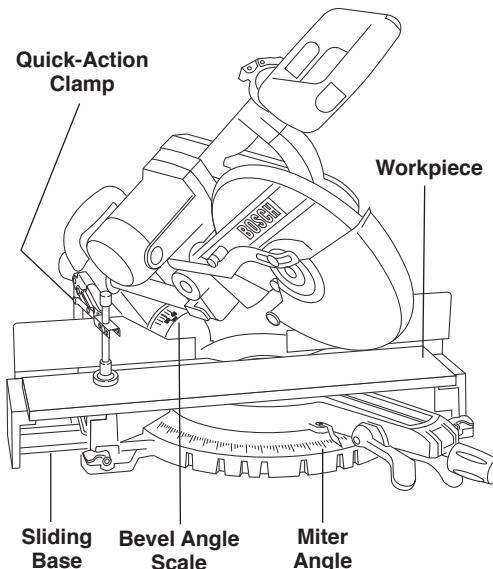

Figure 35. Compound Cut
2. Properly position workpiece. Make sure workpiece is clamped firmly against the table or the fence(Figure 35).